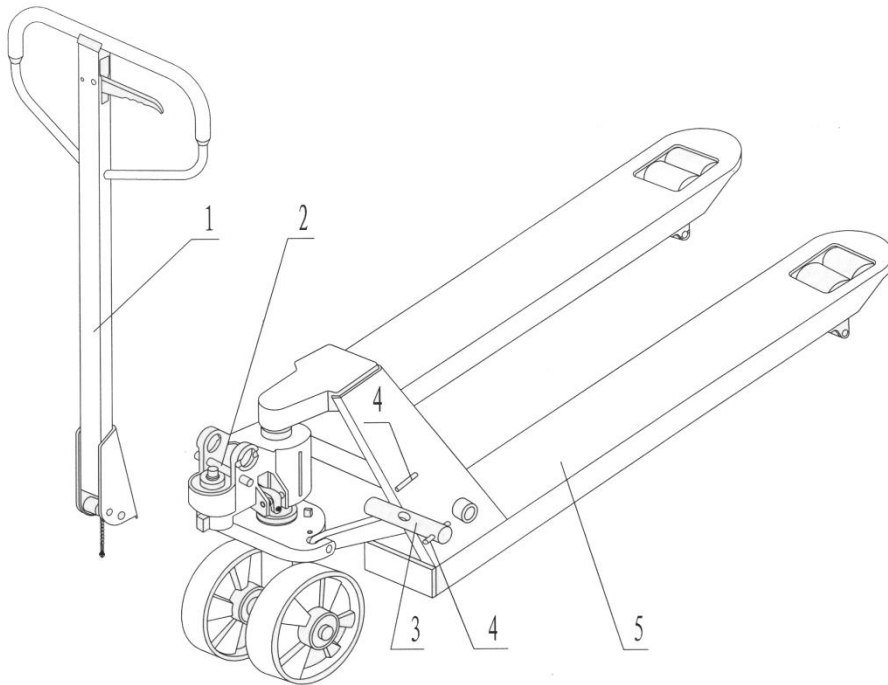

Fig. 1
**2.3** Press the draw-bar (110, 110B or 111G) down, take away the pin(#2) (See Fig. 1).